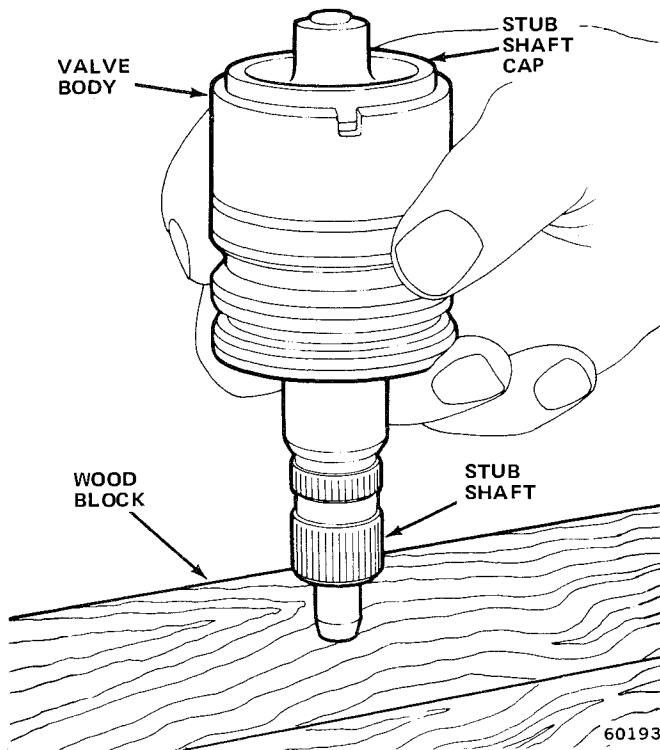

Fig. 2L-28 Separating Stub Shaft and Valve Body
(5) Remove spool valve from valve body using a push and turn motion. If spool valve becomes cocked, carefully realign valve and try removal again. Do not force spool valve out.
(6) Remove spool valve damper O-ring. Discard O-ring.
(7) Cut and remove valve body seal rings and backup O-rings (fig. 2L-27).